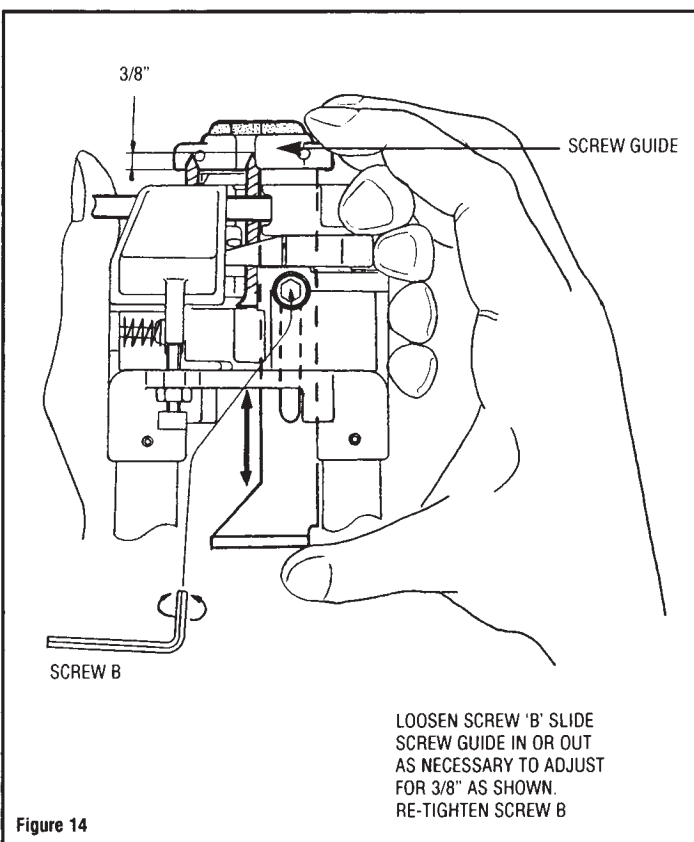

Figure 14
**(i) Screw Guide Adjustment** - the distance that the screw extends onto the screw guide should be kept at approximately 3/8". See figure 14. The screw guide is adjusted by loosening screw 'B' on the top side of the feeder block and by sliding the screw guide in and out to achieve the appropriate setting. The magazine will move with the size piece so that the screws may be fed easily into the feeder block. Be sure to retighten screw 'B' when the adjustment is complete.